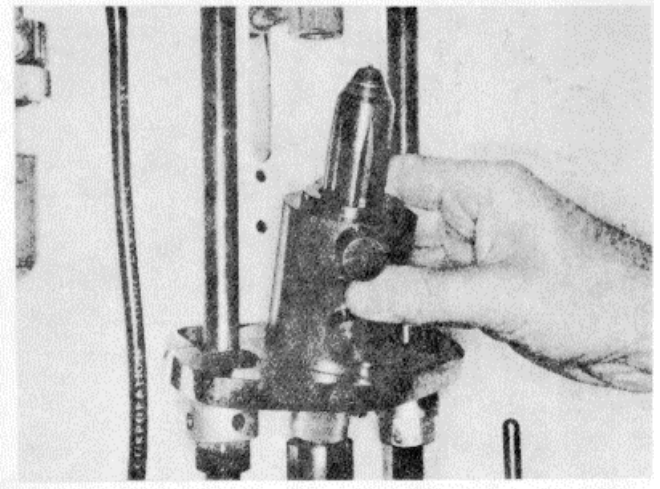

Figure 16H-32. Installing the Injector in ST-990
7. Adjust the knurled knob to obtain the proper clearance with a feeler gauge between the knob and the locknuts, Figure 16H-33. Do not adjust the locknuts.